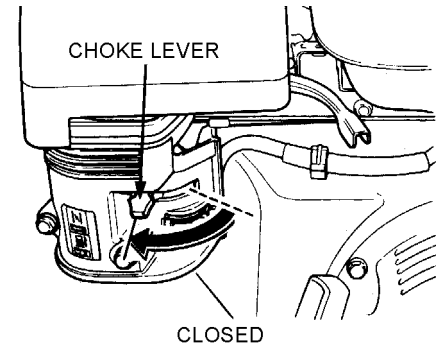

Figure 9. Engine Choke Lever (Closed)
3. Place the choke lever (Figure 9) in the "CLOSED" position if starting a cold engine.